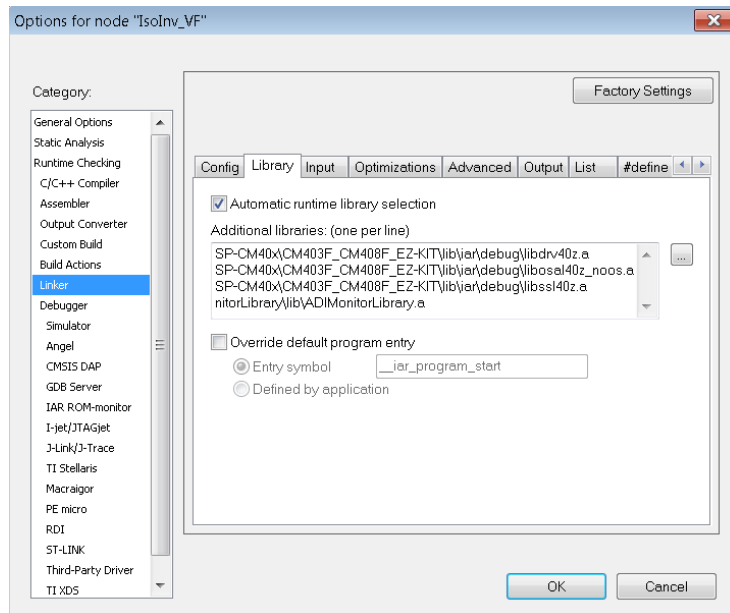

Figure 5: Linker libraries
- Ensure that the linker library files are listed as shown in Figure 5 and that the Linker configuration file in the *Linker->Config* tab is set to `$PROJ_DIR$\CM40z_384_2048_copy_to_SRAM.icf`.